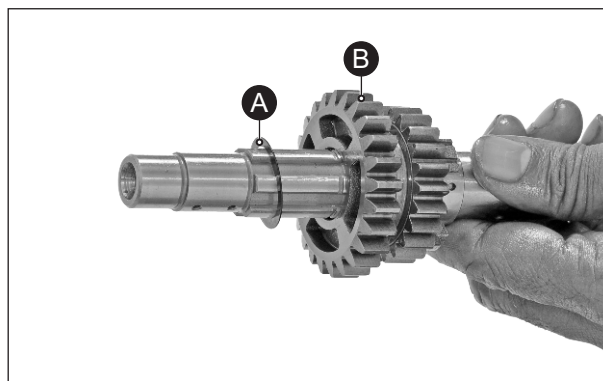

Fig. 3.163
- Take out the shim (A). (Fig. 3.163)
- Take out the gear 3rd driven (B). (Fig. 3.163)